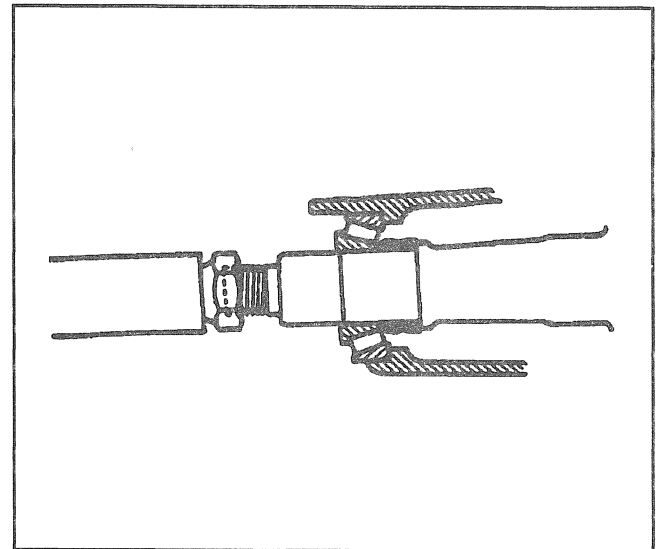
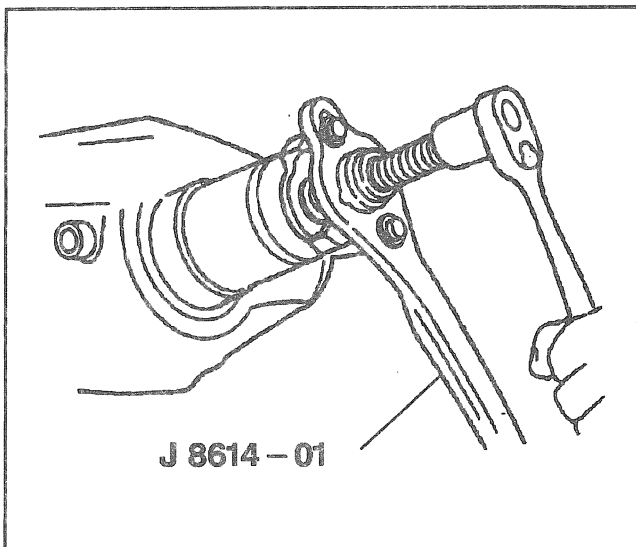
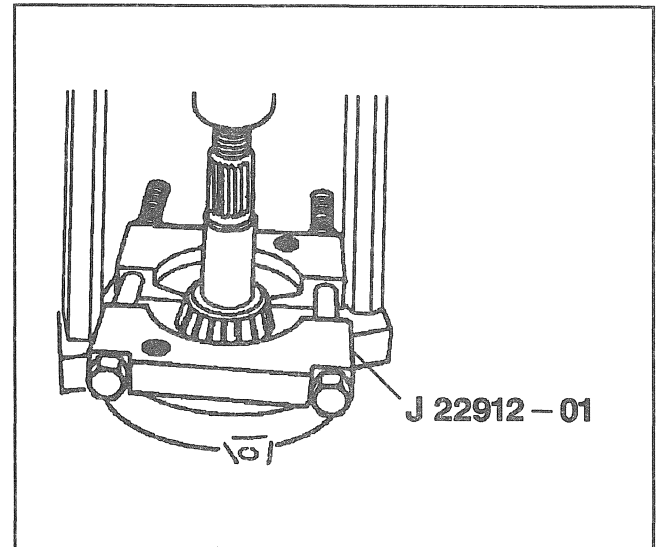

Figure 8—Removing the Drive Pinion
Figure 7—Removing the Pinion Flange
Figure 9—Removing the Pinion Rear Bearing
17. Pinion flange using J 8614-01 (Figure 7).
18. Pinion (7) from the axle housing.
- B. Replace the differential cover (12) with two bolts (14) to keep the pinion from falling to the floor.
- C. Drive the pinion out of the housing with a hammer and a soft drift (Figure 8).
19. Collapsible spacer (4) from the pinion.
20. Outer pinion seal (38) and bearing (39).
21. Inner bearing (5) and shim (6) from the pinion.
- A. Press the bearing off the pinion using J 8612-B (Figure 9).